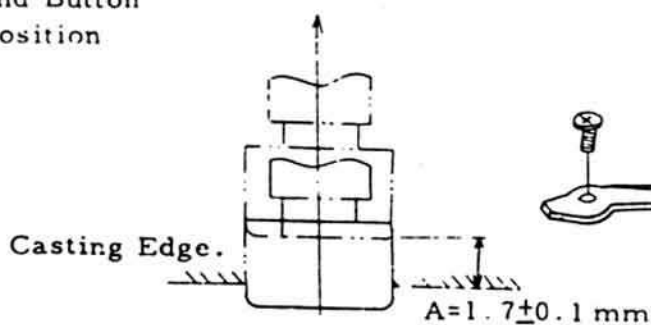
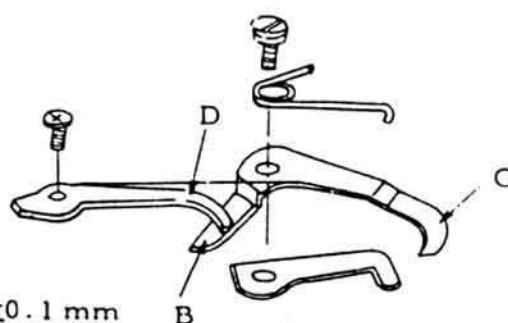

Fig. 35
Fig. 36
- 1) The set position of Rewind Button is "A" in Fig. 35. Make adjustment by bending "B" part (Fig. 36) of Clutch Lever.
- 2) When the Rewind Button is set, the height of Screw (X91-172491) must be over 2/3 of the thickness of Clutch Lever. Adjust it by bending "C" part (Fig. 36).
- 3) When the Rewind Button is set, the clearance between the clutch screw and sprocket clutch claw must be over 0.3 mm. Make adjustment by bending "D" part (Fig. 36) of Clamp Lever Guide (13-9456).